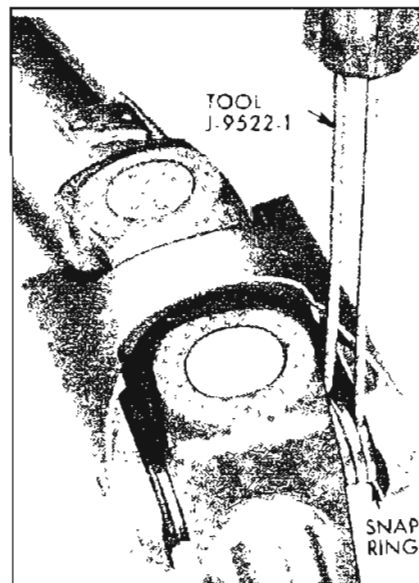

Figure 6-53—Removing Snap Rings from Propeller Shaft
1. Remove snap rings from the bearings. The snap rings are on the inside of the link yoke and can be removed with the assistance of Tool J-9522-1. See Figure 6-53.
1. Remove snap rings from the bearings. The snap rings are on the inside of the yoke and can be removed with the aid of Tool J-9522-1. See Figure 6-53.